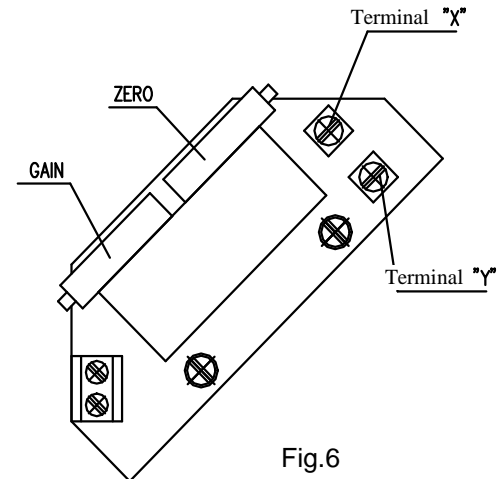

Fig.6
##### 4.4.1 EPV – the 2-wire version (Fig. 6,6a)
- Adjust the resistive transmitter according to the previous chapter. The resistance is to be metered on the terminals X-Y (Fig. 6,6a). The used transmitter resistance is 100 W.
- Adjust the resistive transmitter according to the previous chapter. The resistance is to be metered on the terminals X-Y (Fig. 6,6a).